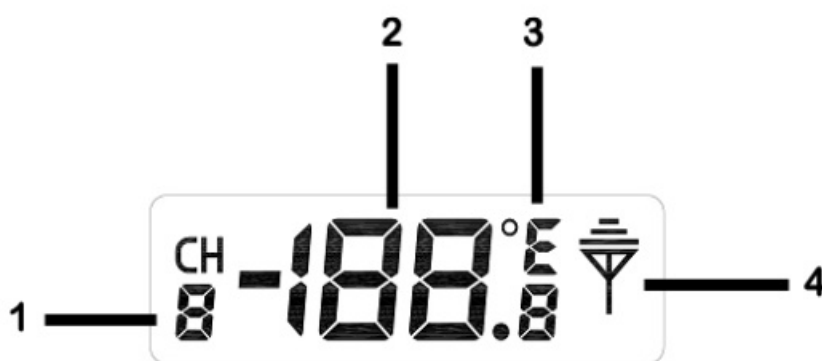

Figure 4
6. Verify the correct channel number (CH) and temperature units of measure (°F vs °C) are on the display, as shown in Figure 4.